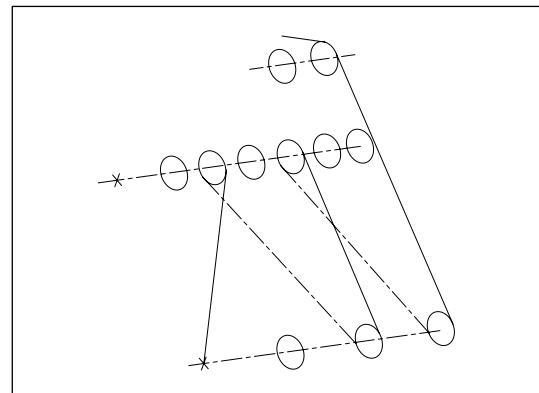

Figure9-30e: Five-magnification crossing and winding schematic
5. When lift weight with a five magnification, cross and wind steel wire rope according to the method as shown in Figure9-30e.